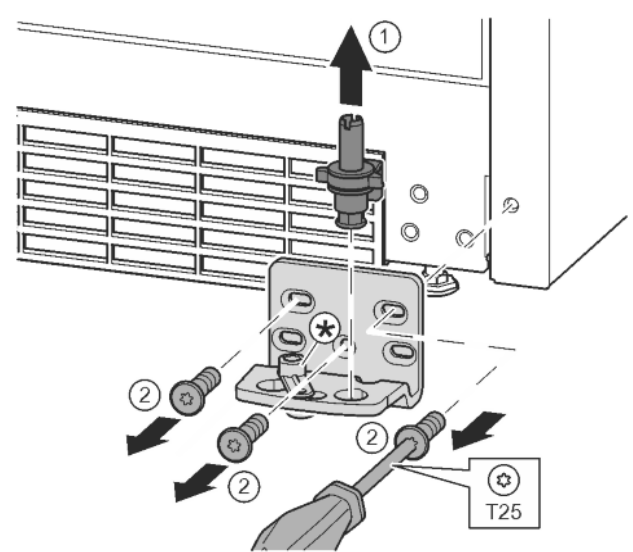

Fig. 10
- ▶ Lift the bearing pin completely upward and remove. Fig. 10 (1)
- ▶ Undo the screws with a T25 screwdriver and remove the bearing bracket Fig. 10 (2)